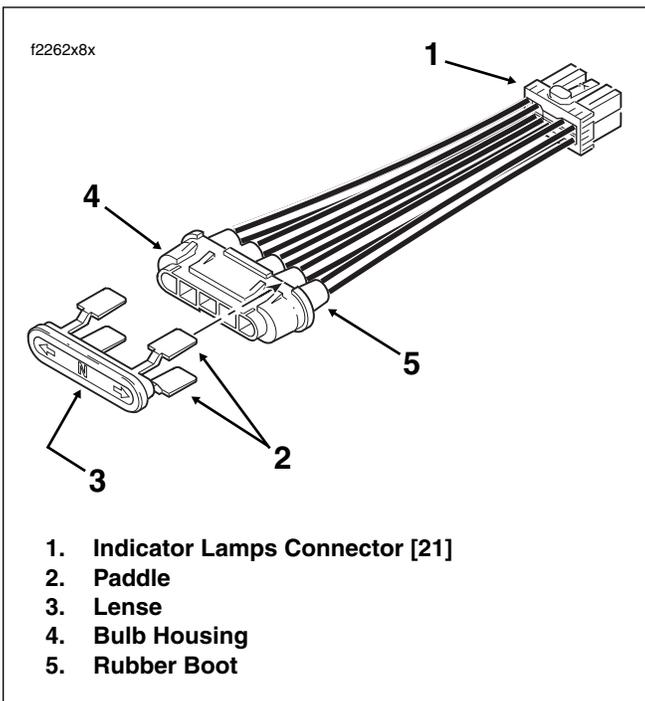

Figure 2-167. Indicator Lamp Assembly
22. Disconnect indicator lamps connector [21], 10-place Multilock. See Figure 2-165. Release four paddles to free indicator bulb housing from lense assembly. See Figure 2-167. Remove lense assembly from inner fairing.
8. Place indicator lamp lense assembly into inner fairing. Slot at bottom of lense engages tab in inner fairing to prevent improper orientation. Engage all four paddles on lense assembly with slots on indicator bulb housing. Connect indicator lamps connector [21], 10-place Multilock. See Figure 2-167.